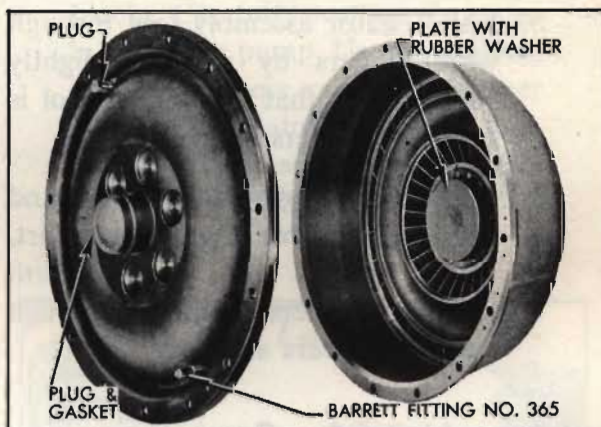

Fig. 13. Plate and plugs installed in pump and cover
2. Install fixture inside converter pump as shown in Fig. 13. Install pump cover and seal. Tighten to 25-30 ft.-lbs. torque in the correct sequence.
3. Install one drain plug and one Barrett fitting No. 365 in other drain hole. Install large plug with gasket in converter pump cover hub (Fig. 13).